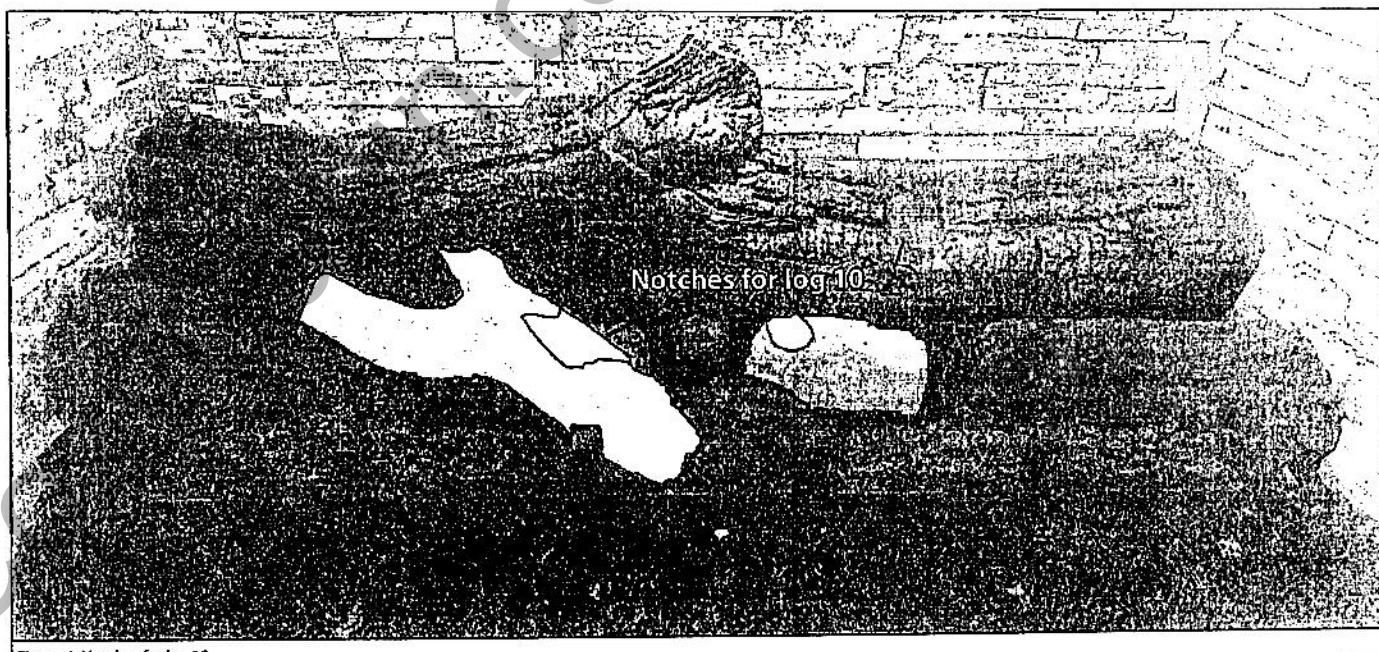

Figure 4, Notches for log 10
7. Align log 10 with the notches on logs 9 and 6 (Fig. 4), and place as shown in Fig. 5.